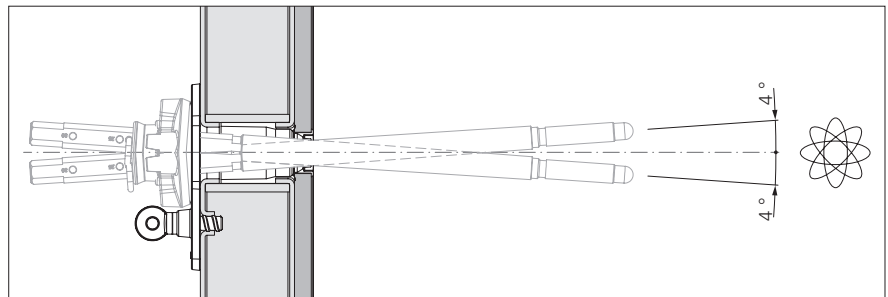
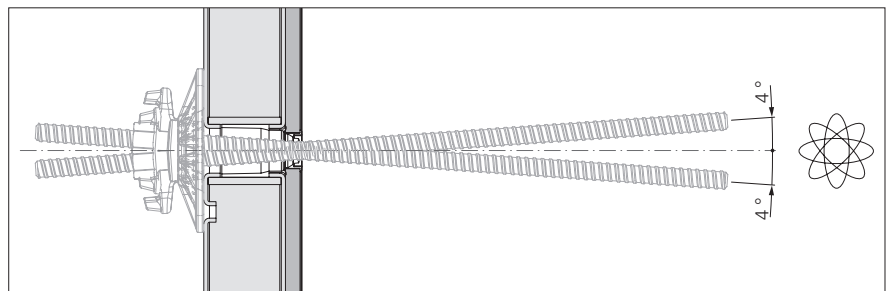

Fig. A9.01
Fig. A9.05
- The conical tie point allows for inclined anchoring of up to 4° on all sides. (Fig. A9.01 + Fig. A9.05)
- Secure Panels MX-2 (5) against upthrust.